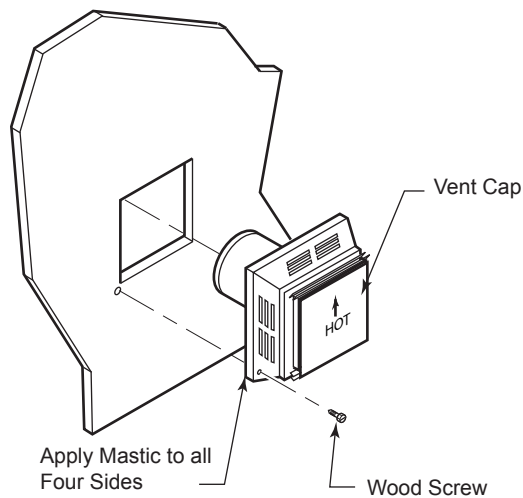

**Figure 22 -
- Apply a bead of non-hardening mastic around the outside edge of vent cap. Position the vent cap in the center of hole on the exterior wall with the word "UP" on the vent cap facing up. Insure proper clearance of 1" to combustibles is maintained. Attach the vent cap with four (4) wood screws supplied. *Figure 22*